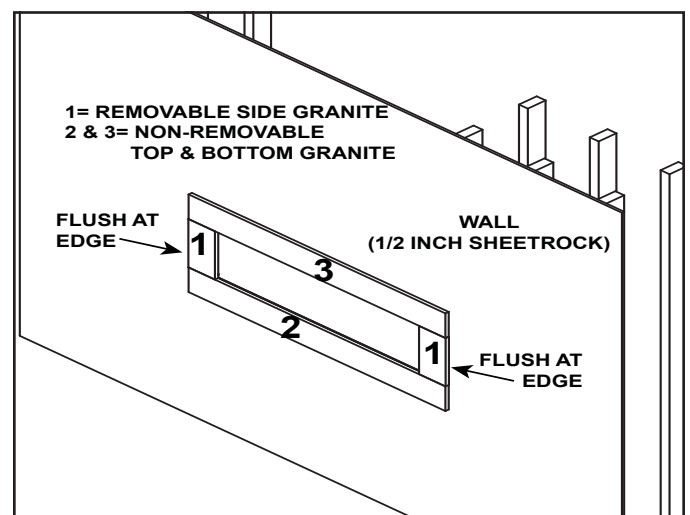

Figure 7. Sequence of Granite Piece Placement
Note: Install granite pieces in the order indicated in Figure 7.
9. Center the top granite piece in position on top of the two side pieces ensuring that the left and right edges of the top piece are flush with the edges of the left and right outside granite pieces. See Figure 7.